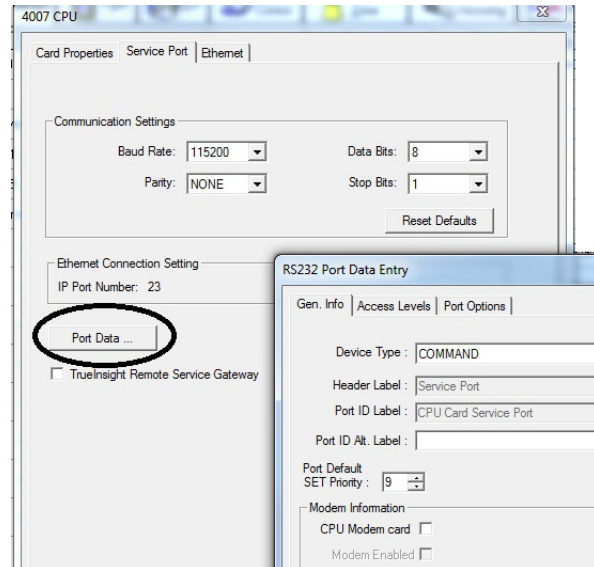

Figure 6-1. 4007 CPU - Gen Info Tab
Editing the CPU	<p>The 4007 CPU window has three main tabs to edit. The Card Properties tab, the Service Port tab, and the Ethernet tab.</p> <p>To edit the Card Properties tab (Figure 6-1):</p> <p>Enter the card's custom label. This label should make the card easily identifiable.</p> <p>The following fields in the tab are filled by the programmer and cannot be edited:</p> <ul style="list-style-type: none"> • Card address • Card description • Card default label • Annunciator address • Unit number • Box number • Bay number • Location <p>To edit the Service Port tab (used as an output for ExacTech and TrueInsight):</p> <ol style="list-style-type: none"> 1. Configure the communication settings by selecting the Baud Rate, Parity, Data Bits, and Stop Bits fields to the values required by the attached device. It is recommended that you use the following default settings whenever possible. <ul style="list-style-type: none"> • Baud Rate: 115,200 • Data Bits: 8 • Stop Bits: 1 • Parity: None 2. Click on the Port Data button. The RS323 Port Data Entry window opens (Figure 6-1).
- Click the Gen. Info tab. Enter the information requested. Click on **Apply** and then **OK** to confirm the selection (Figure 6-1).